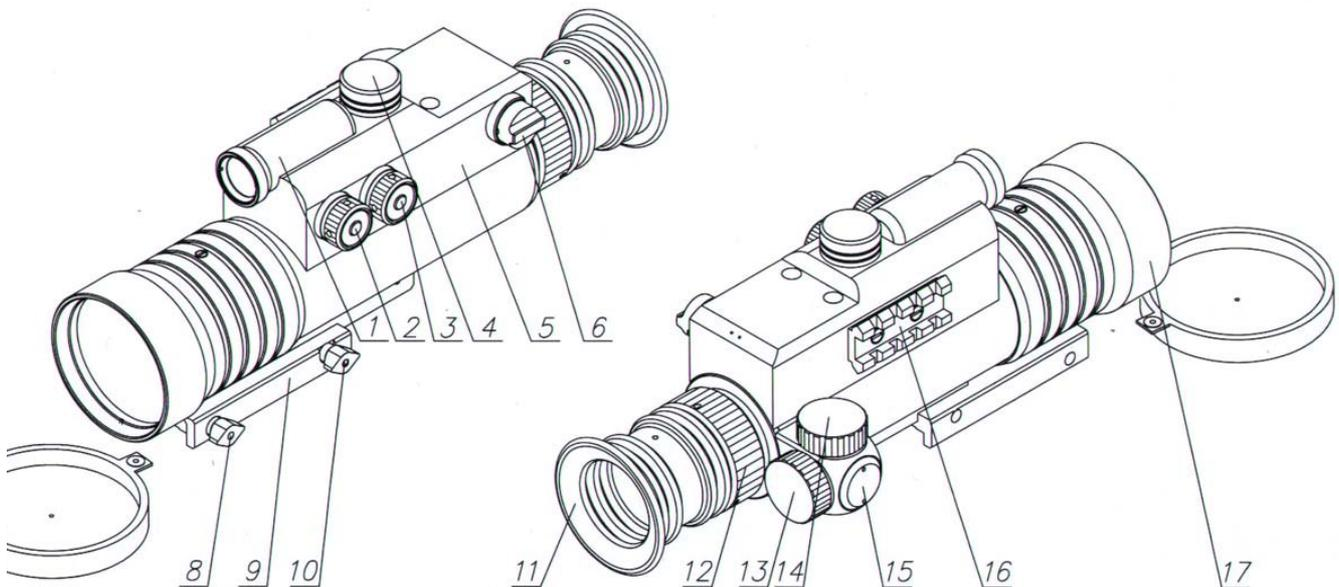

Fig. 1 The NS-ND night vision sight.
The rifle scope is shown in figure 1. The rifle scope body is a metal housing which covers the electron-optical converter (ICT) and the high-voltage power supply. The device has following basic parts: a lens, eyepiece, a mechanism of adjusting for zero, a control unit, and a mount. Located in the control unit (5) are the following: the battery pack (4), IR illumination (1), the indicators of operating modes and operating controls.